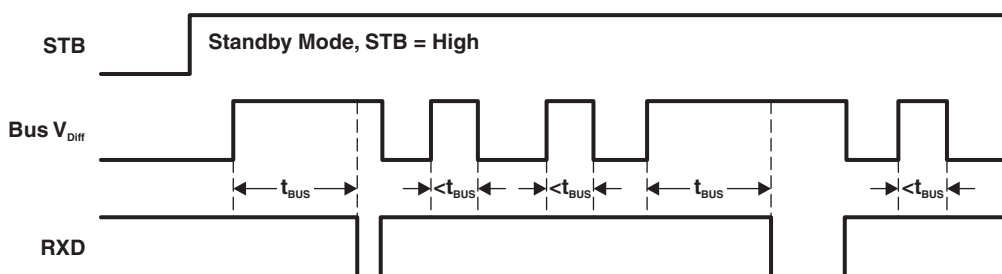
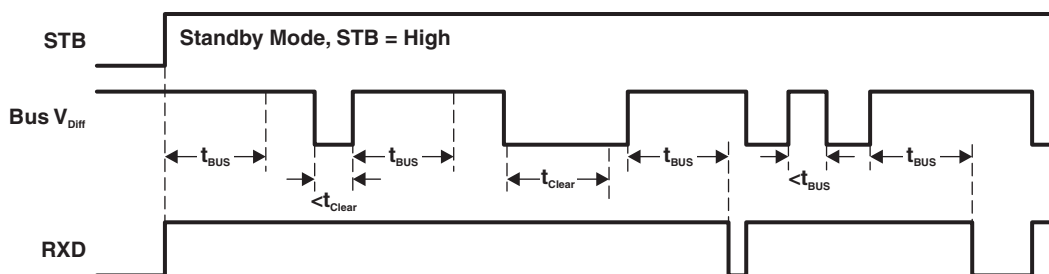

Figure 3. SN65HVDA541 RXD Wake Up Request With No Bus Fault Condition
Figure 4. SN65HVDA541 RXD Wake Up Request Lock Out When Bus Dominant Fault Condition
(2) See Figure 3 and Figure 4 for operation of the low power wake up receiver and bus monitor for RXD Wake Up Request behavior and Table 3 for the wake up receiver threshold levels.
- (1) H = high level, L = low level, X = irrelevant, ? = indeterminate.
- (2) While STB is high (standby mode) the RXD output of the SN65HVDA540 is always high (recessive) because it has no wake-up receiver.
- (3) While STB is high (standby mode) the RXD output of the SN65HVDA541 functions according to the levels above and the wake-up conditions shown in Figure 3 and Figure 4.
(3) When  $V_{IO}$  is undervoltage, the device is forced into standby mode with respect to the CAN bus since there is not a valid digital reference to determine the digital I/O states or power the wake-up receiver.